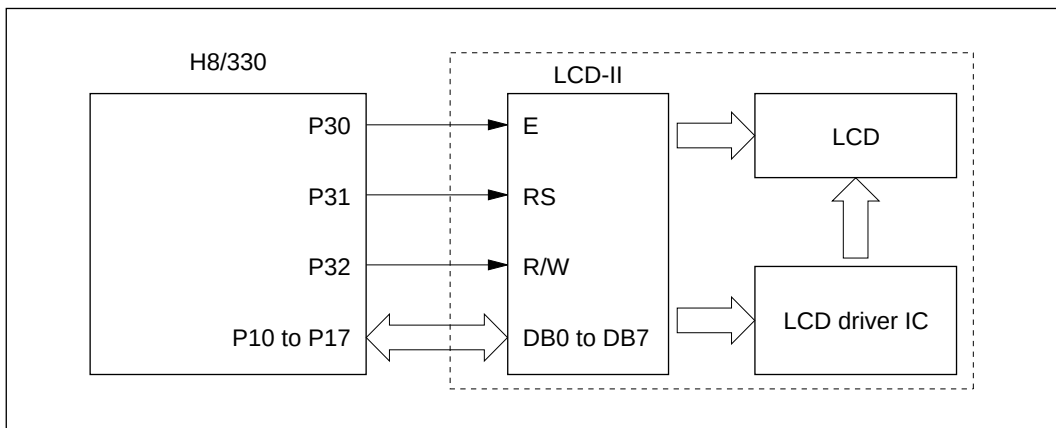

Figure 1 Block Diagram Showing Control of LCD-II by H8/330
- Control signals from the H8/330's I/O ports control an LCD-II (HD44780) as shown in figure 1 to display a letter (A) on an LCD.